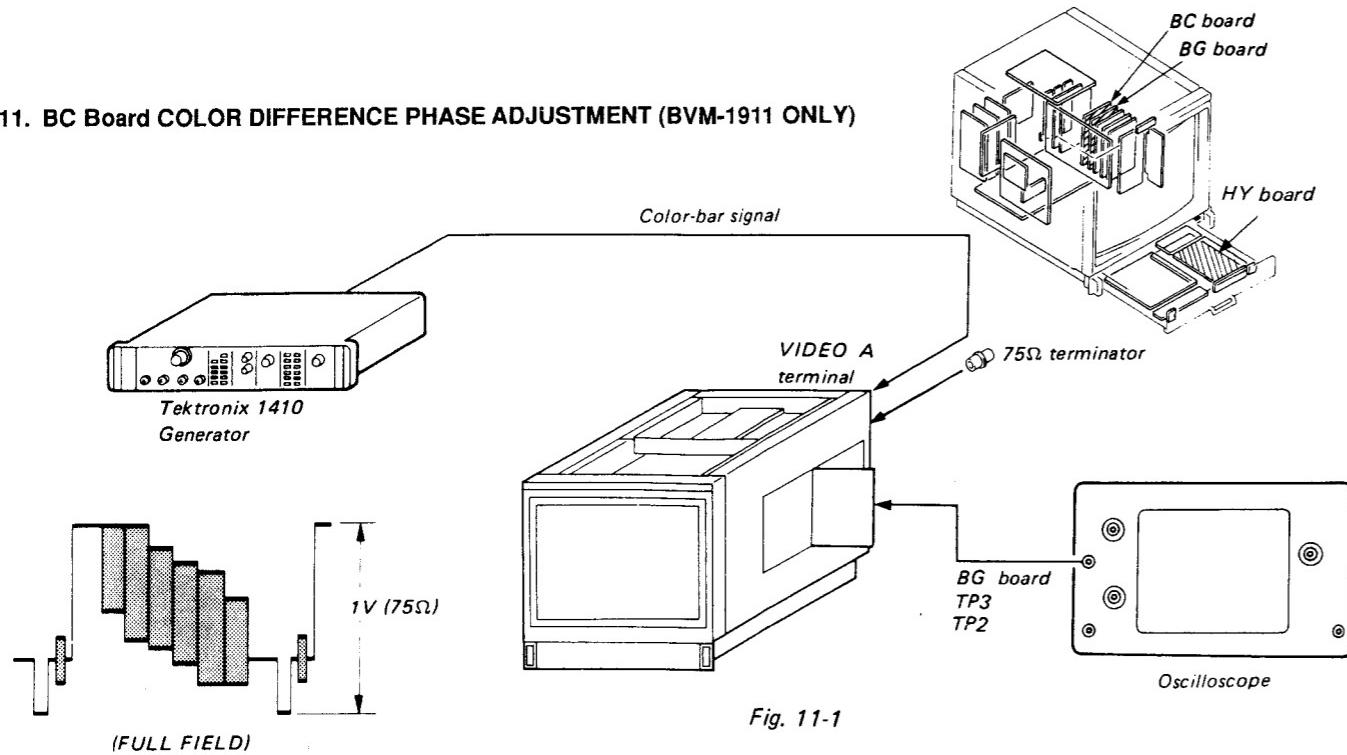

**Fig. 10-1**
- 4. Adjust CV2 of BC board so that the output waveform is shifted slowly as shown in Fig. 10-1.